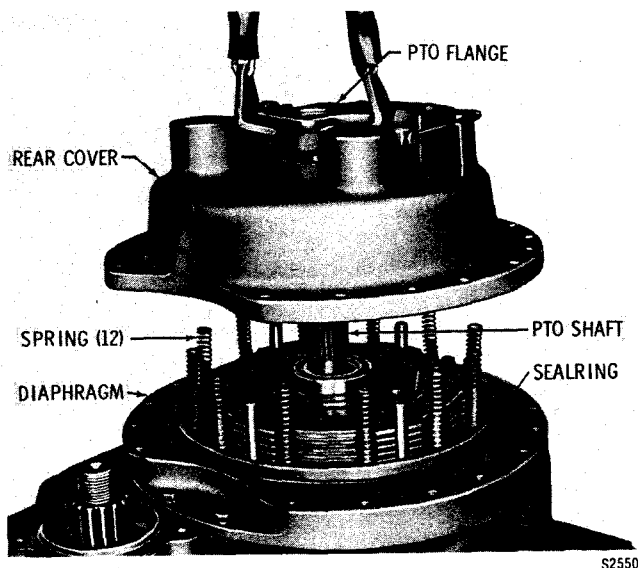

Fig. 5-23. Removing rear cover assembly (TTB 2221-1, 2421-1 with converter-driven PTO)
(2) Attach a sling to the PTO flange (fig. 5-23). Remove the rear cover assembly, PTO shaft, and attached parts as a unit. Refer to paragraph 6-21 for rear cover assembly rebuild instructions.
(3) Proceed to paragraph 5-9c.